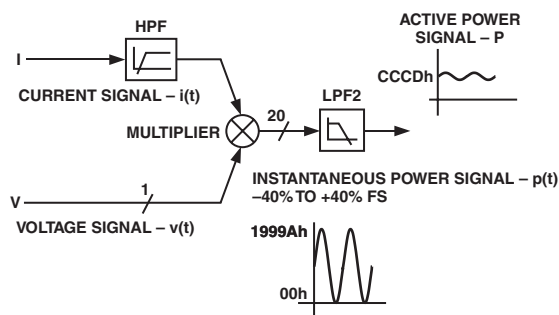

Figure 34. Active Power Signal Processing
Figure 34 shows the signal processing chain for the Active Power calculation in the ADE7759. As explained, the Active Power is calculated by low pass filtering the instantaneous power signal.
As mentioned in the last section, the discrete time sample period (T) for the accumulation register is $1.1 \mu s$ ($4/CLKIN$). With full-scale sinusoidal signals on the analog inputs, digital integrator turned off, and the Active Power Gain register set to 000h, the average word value from LPF2 is CCCD—see Figures 34 and 35. The maximum value that can be stored in the Active Energy